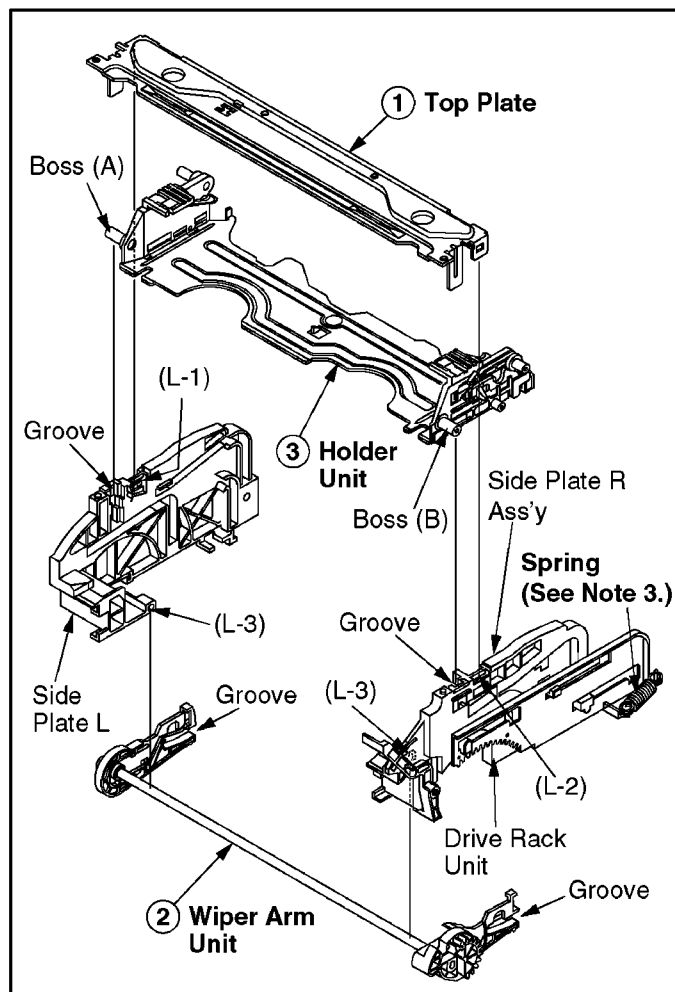

Fig. K1-1
- Insert Holder Unit boss (A) and (B) into the grooves as shown in Fig. K1-1.